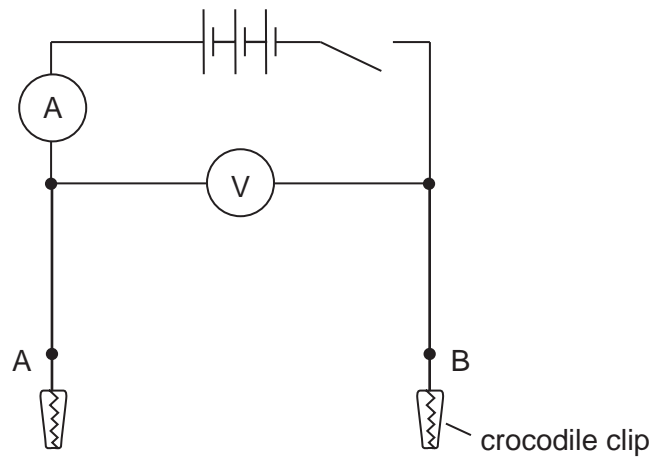

Fig. 2.2
- (iii) The Supervisor should set up the apparatus as shown in Fig. 2.2. The leads at points A and B should terminate in crocodile clips. These leads should be long enough to enable the candidate to connect a length of 1.0 m of resistance wire into the circuit.
- (iv) At the changeover, the Supervisor should check that the circuit is set up as in Fig. 2.2, with nothing connected between points A and B and with the switch open.